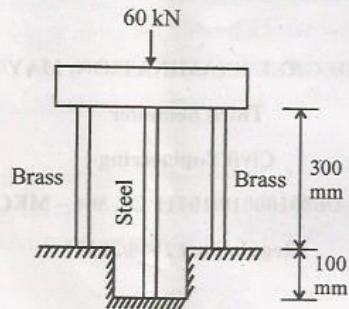

Fig. 11 (a)
11. (a) A steel rod of cross-sectional area 2000 mm^2 and brass rods each of cross-sectional area of 1200 mm^2 together support a load of 60 kN as in fig. 11(a). Find the stresses in the rods. Take E for steel = $2 \times 10^5 \text{ N/mm}^2$ and E for brass = $1 \times 10^5 \text{ N/mm}^2$. (16)